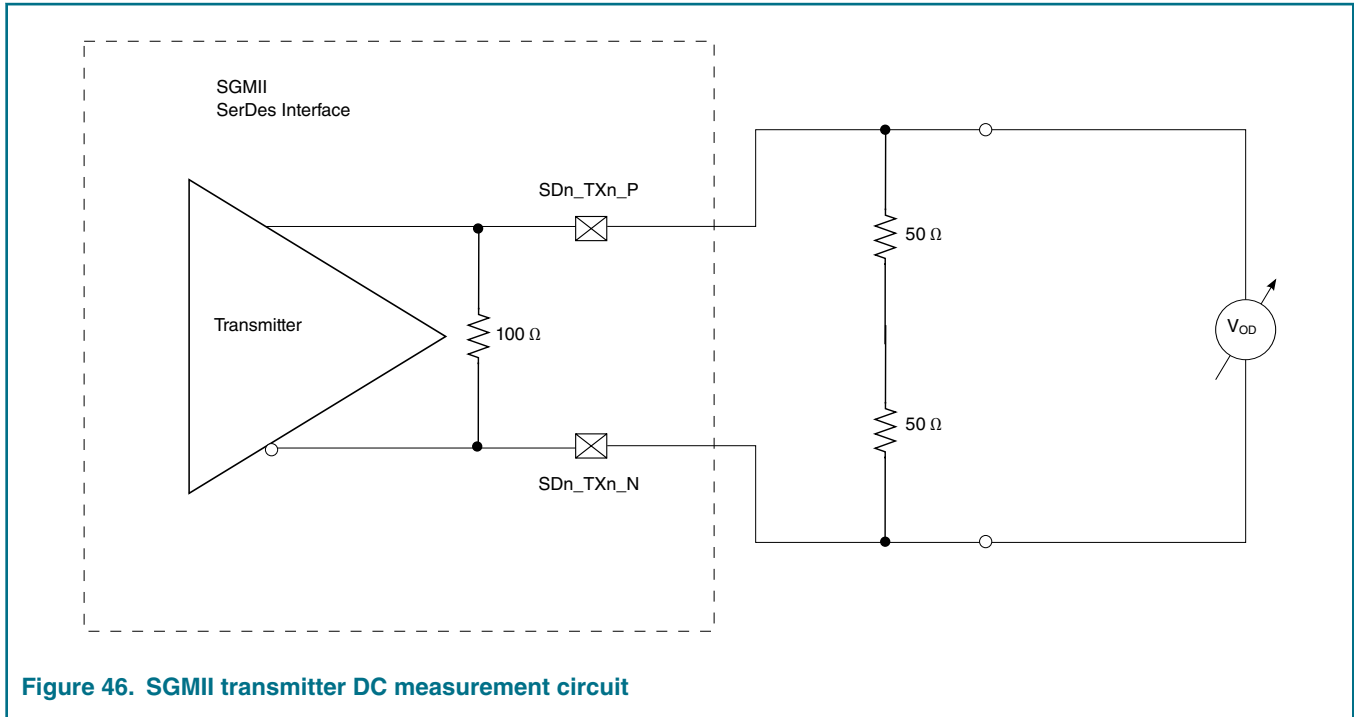

Figure 46. SGMII transmitter DC measurement circuit
13. See Figure 46. on page 141.